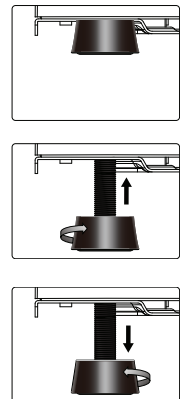

Fig. 5
- Twist the foot into a suitable position to level the cabinet. (Fig. 5)